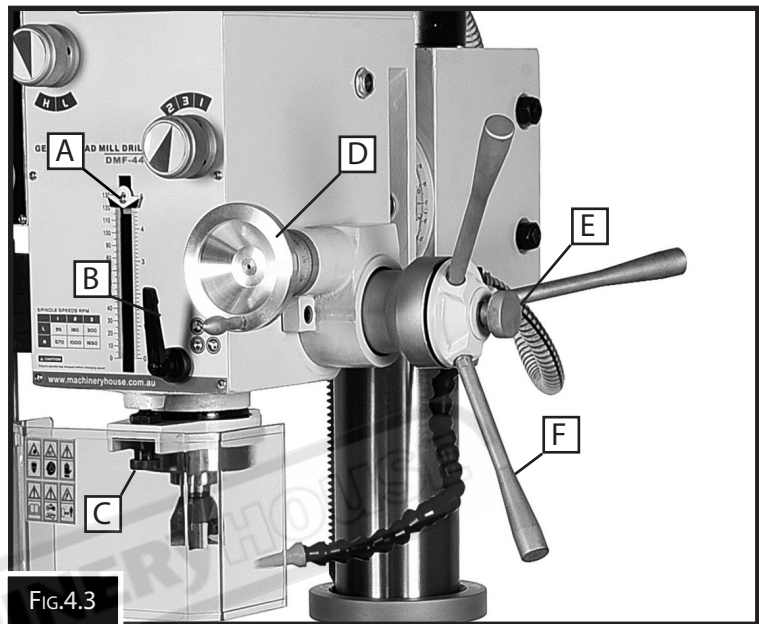

FIG.4.3
The machine is equipped with a course down-feed control mainly used for drilling or quick adjustment and a fine down-feed control used mainly when milling or where controlled down-feed is required. (Fig.4.3)
1. Loosen quill lock lever.(B in Fig.4.3)